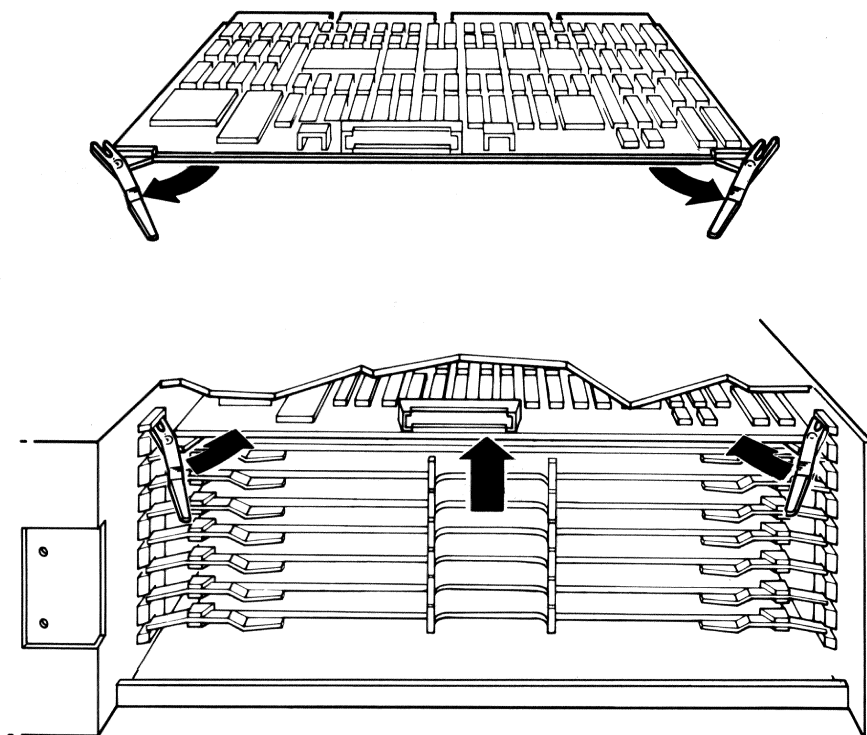

Figure 6-27 Module Locking Levers
6. Remove the modules from the chassis. Each Q22-Bus quad-height module has levers at each end that lock the module in place and assist in releasing the module from the backplane. (Figure 6-27)